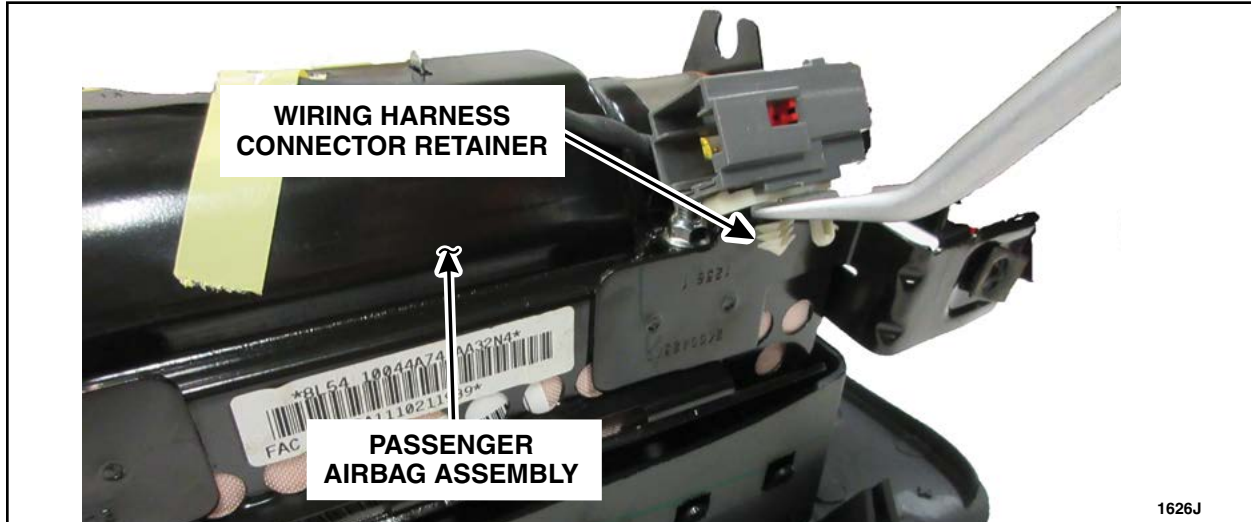

FIGURE 2
1. Remove the wiring harness connector retainer from the passenger airbag assembly. See Figure 2.